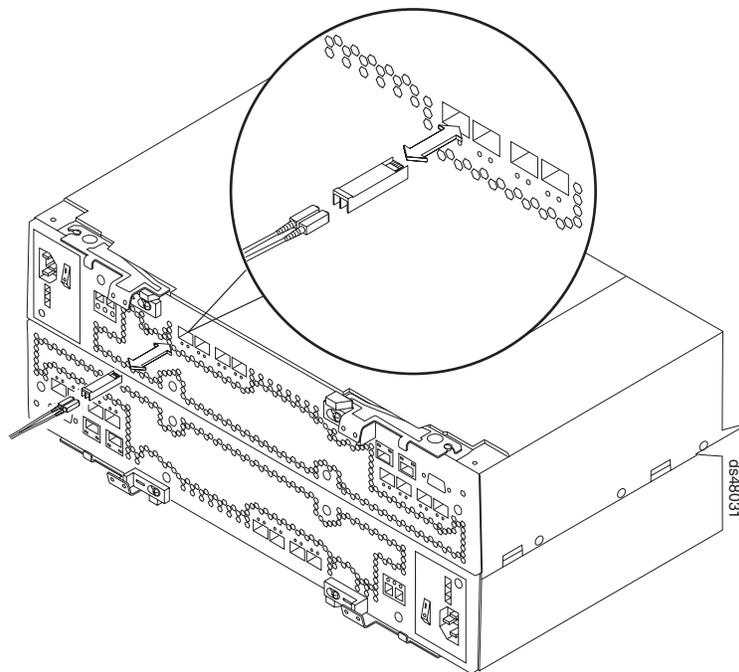

Figure 30. Replacing an SFP module
2. Connect the fiber-optic cable to the installed SFP, as shown in Figure 30.